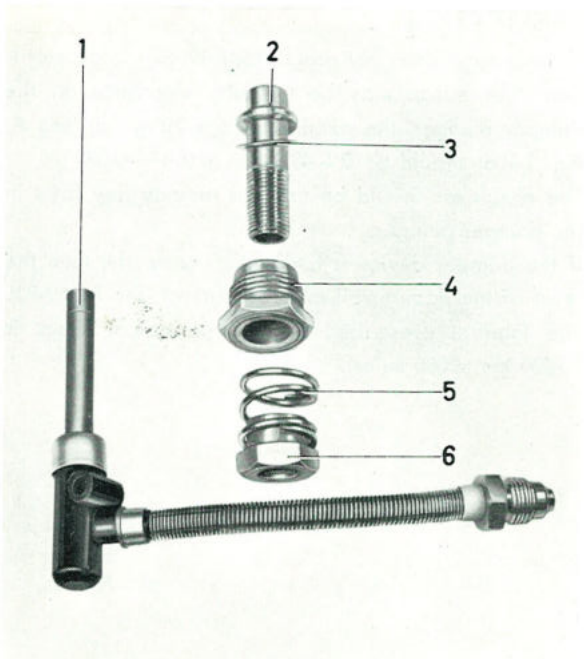

Fig. 2-112. Jet dismantled
4. Fit the spring, adjusting nut and jet, see Fig. 2-112. Connect the link.